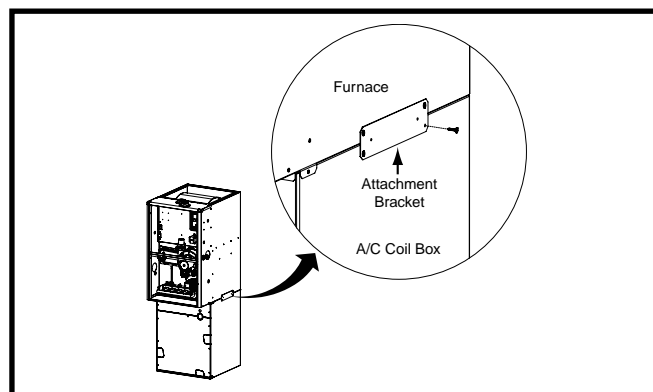

Figure 21. Attachment Bracket
7. Secure the furnace to the A/C coil box with an attachment bracket on both sides of the furnace. **NOTE:** The attachment brackets must be evenly positioned over the seam between the A/C coil box and the furnace. Install 4 self drilling screws in each bracket. See Figure 21.